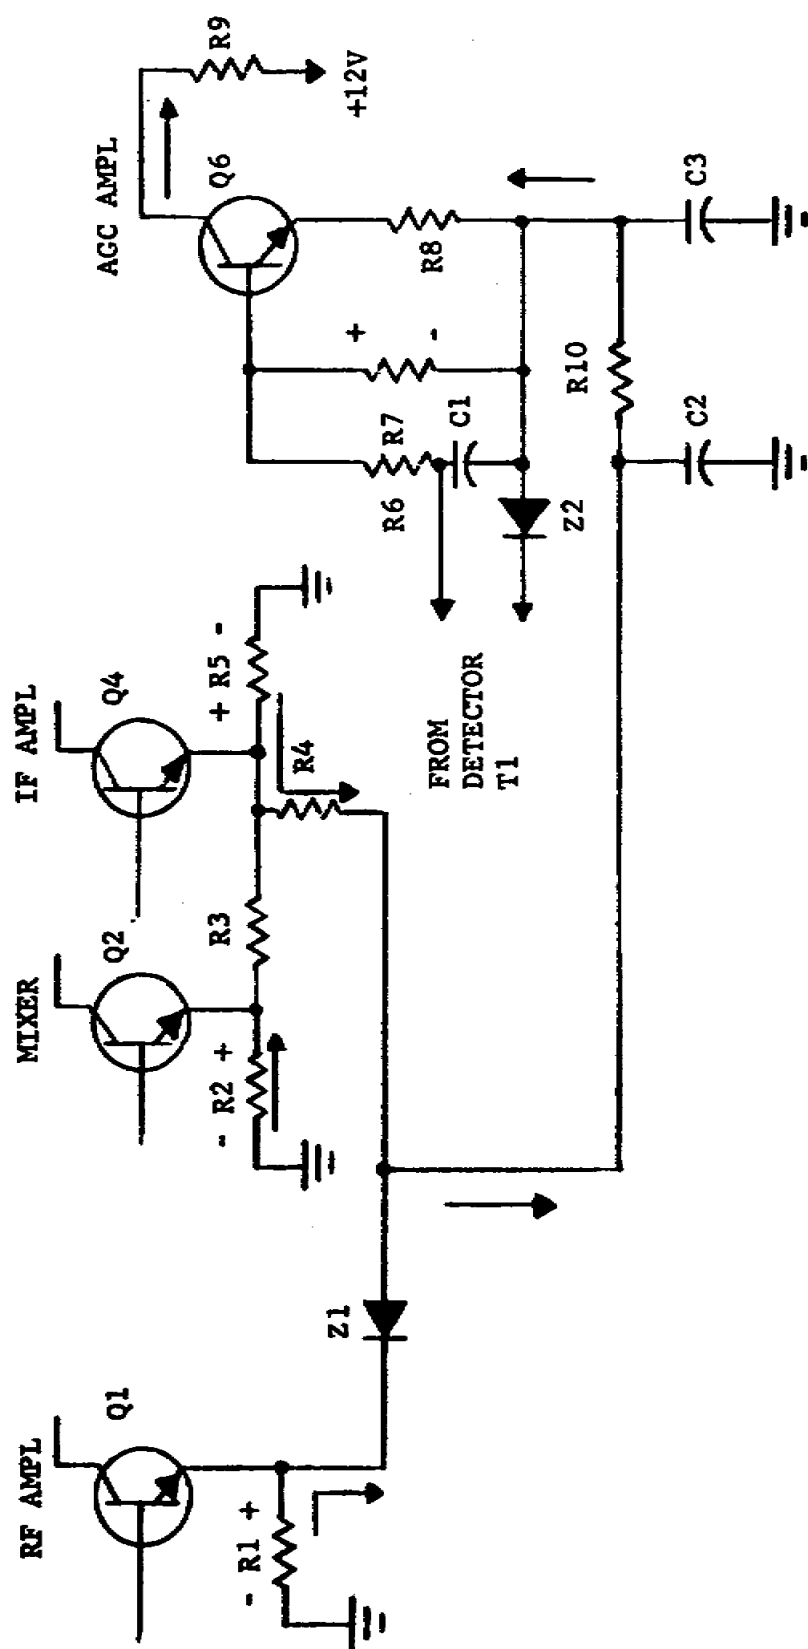

Figure 3-3. Automatic gain control.
(fig. 3-3)
19. The function of diode Z2 in figure 3-3 of the attached memorandum is to